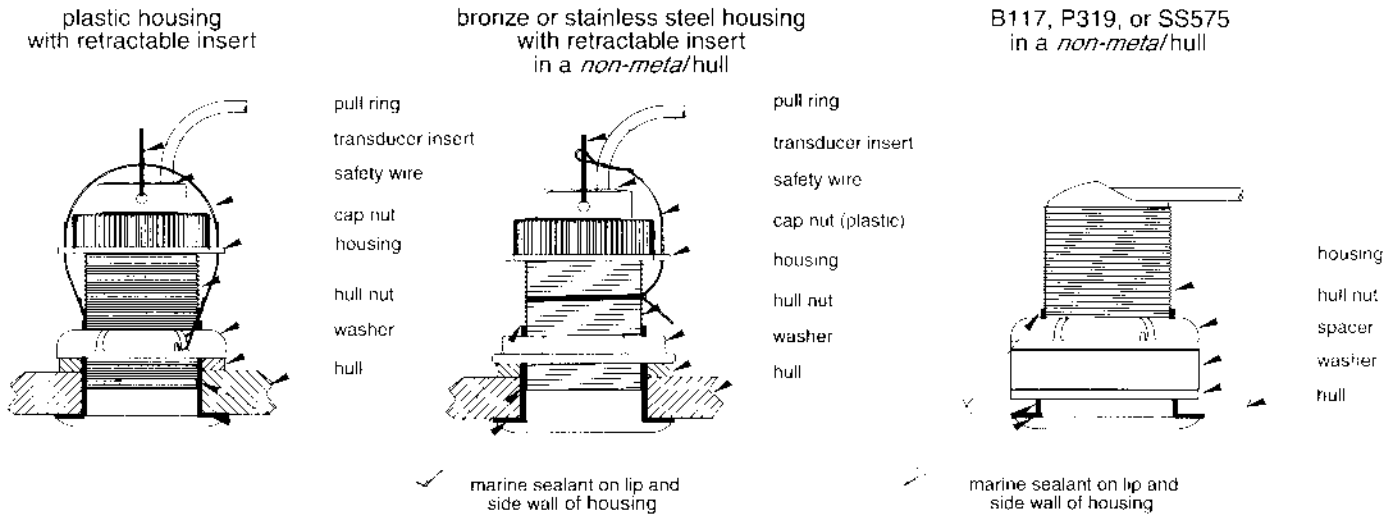

Figure 2. Bedding and installing (low profile housings shown)
Apply a 2mm (1/16”) thick layer of marine sealant around the lip of the housing that contacts the hull and up the sidewall of the housing. The sealant *must* extend 6mm (1/4”) higher than the combined thickness of the hull, washer, any spacer, and the hull nut (see Figure 2). This will ensure there is sealant in the threads to seal the hull and to hold the hull nut securely in place.
2. From inside the hull, slide the washer onto the housing (see Figure 2).
2. Remove the paddlewheel insert from the housing by removing the safety wire and unscrewing the cap nut (see Figure 2).